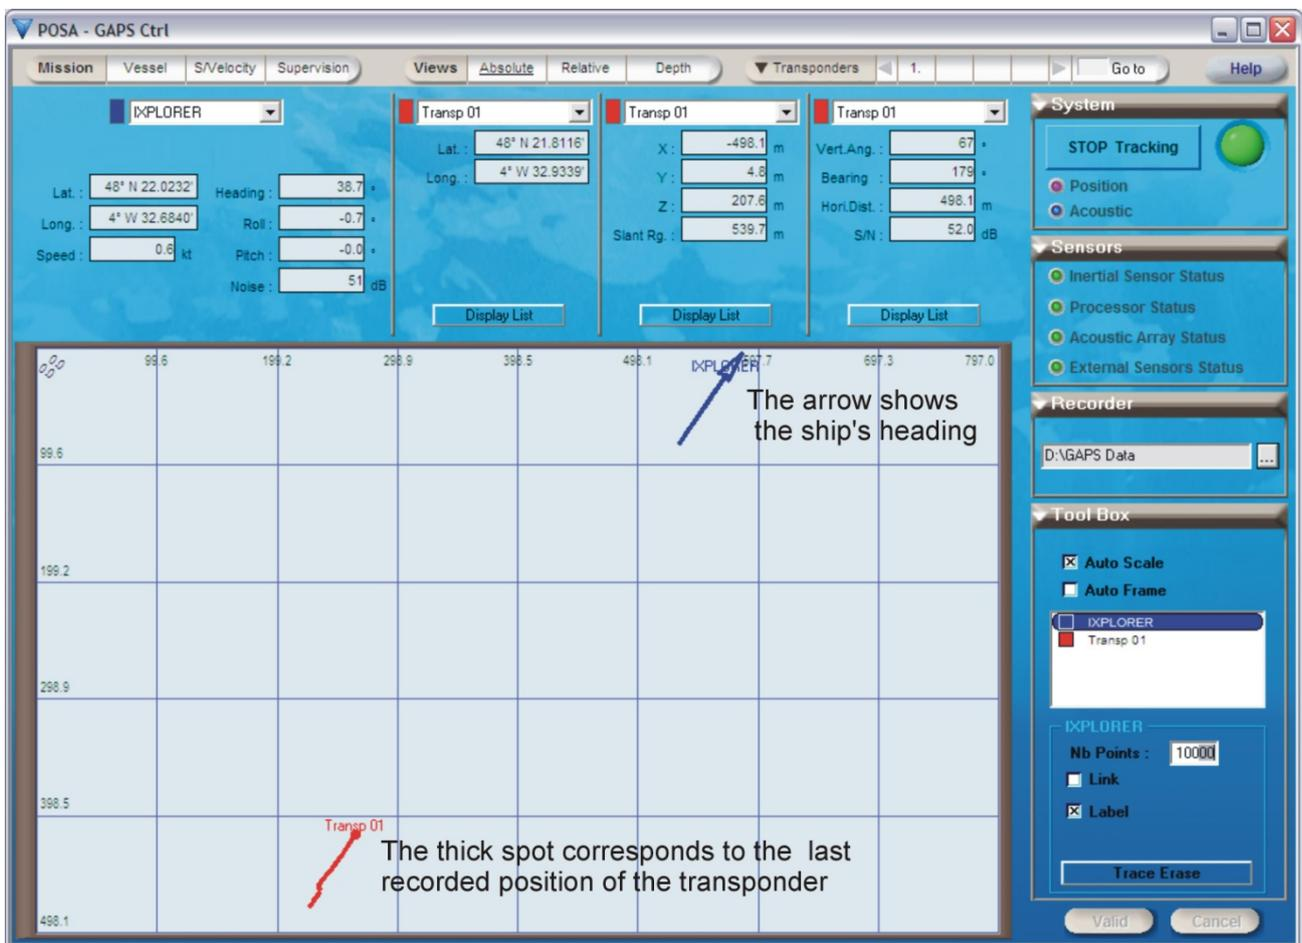

Figure 44 - Absolute view
**Window** The corresponding window (see Figure 44) appears.
- Then click on the box of the selected mobile (for example, in the  of the fish mobile in the Figure 44): the cross-mark is now displayed in the box of the selected mobile.
A bigger spot than all the others symbolizes the last position of the displayed point. It represents the last known position of the mobile. The arrow, which represents the ship, is oriented following the current ship heading (see Figure 44).